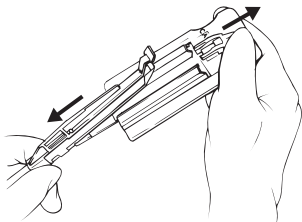

FIGURE 14
- 10b. Immediately before using, slide assembly clip off stapler forks. Remove stapler loading unit (See figure 14).